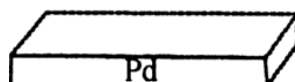

Fig. 6.2: Three-dimensional representation of the Pd catalyst surface
- 6.3** With reference to Fig. 6.2, **illustrate** the two **orientations of adsorption** by drawing **two different ways** in which α -pinene would **approach** the Pd catalyst surface.